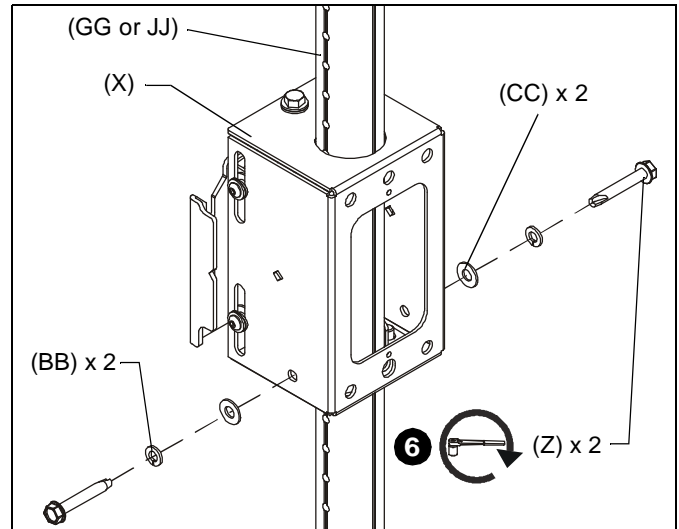

Figure 7
6. Attach array head (X) to column using two 5/16" x 2" hex head self-tapping screws (Z), two 5/16" split washers (BB), and two 5/16" friction washers (CC). (See Figure 7)